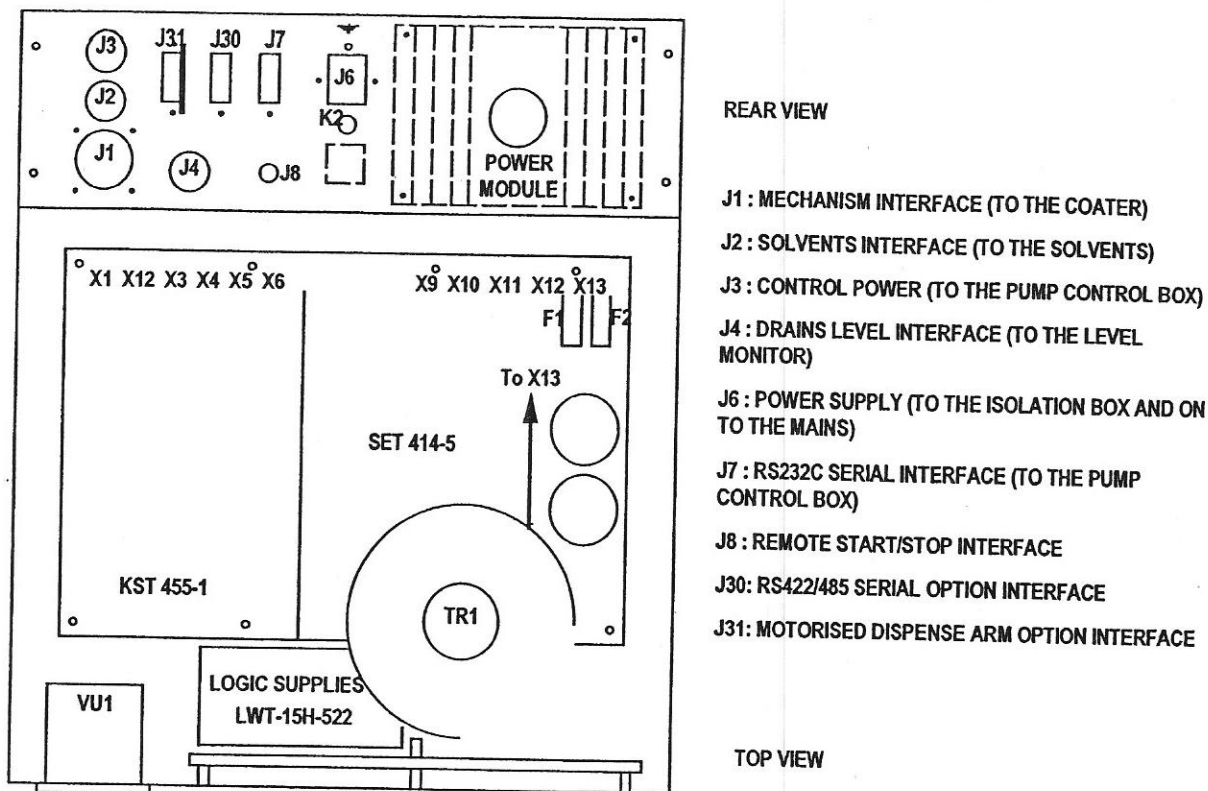

Figure 18: Spin Coater CT62 Controller Connections
1. Connect one end (J2) of cable (Z2) to connector J2 (Solvents Interface - see Figure 18: Spin Coater CT62 Controller Connections on p18) on the controller panel